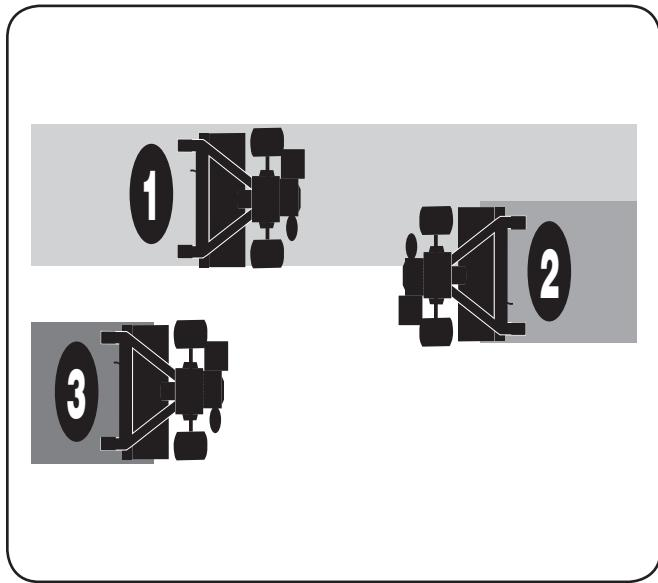

Figure 5-7
- If the garden size will not permit lengthwise and then crosswise tilling, then overlap the first pass by one-half a tiller width, followed by successive passes at one-quarter width. See Figure 5-7.